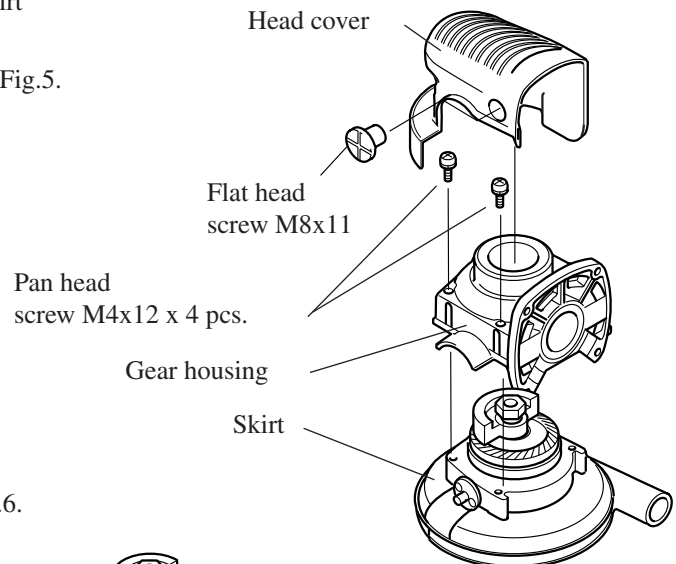

Fig. 5
- (1) Unscrew flat head screw M8x11 and detach head cover from gear housing. See Fig.5.
- (2) Unscrew pan head screw M4x12 and detach skirt from gear housing. See Fig.5.